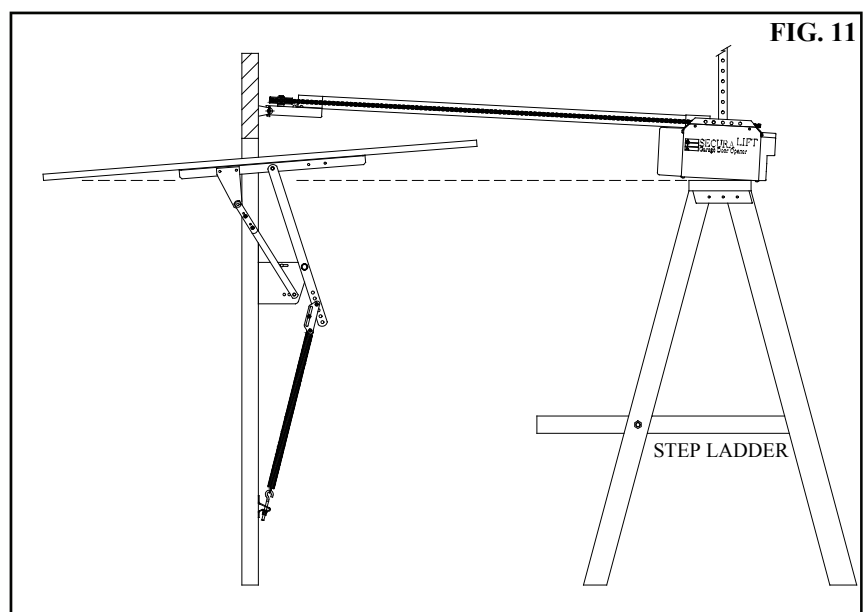

FIG. 11
Close the door slowly. The opener pipe/tube will be elevated by the top edge of the door as it moves. Stop the door when it is at its highest point of travel. (FIG. 11)
**Allow 25mm additional height for clearance** between the door and the track. Support pipe / tube in this position and the close the door. (FIG. 11) This will be the height to mount the wall bracket. Top of door must not touch tube.